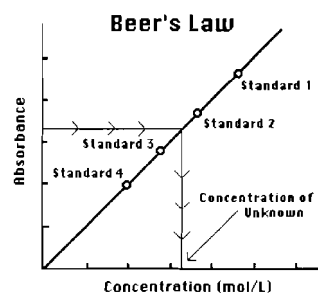

Figure 1
The primary objective of this experiment is to determine the concentration of an unknown nickel (II) sulfate solution. You will be using the Colorimeter shown in Figure 1. In this device, red light from the LED light source will pass through the solution and strike a photocell. The NiSO_4 solution used in this experiment has a deep green color. A higher concentration of the colored solution absorbs more light (and transmits less) than a solution of lower concentration. The Colorimeter monitors the light received by the photocell as either an *absorbance* or a *percent transmittance* value.
The concentration of an *unknown* NiSO_4 solution is then determined by measuring its absorbance with the Colorimeter. By locating the absorbance of the unknown on the vertical axis of the graph, the corresponding concentration can be found on the horizontal axis (follow the arrows in Figure 1). The concentration of the unknown can also be found using the slope of the Beer's law curve.